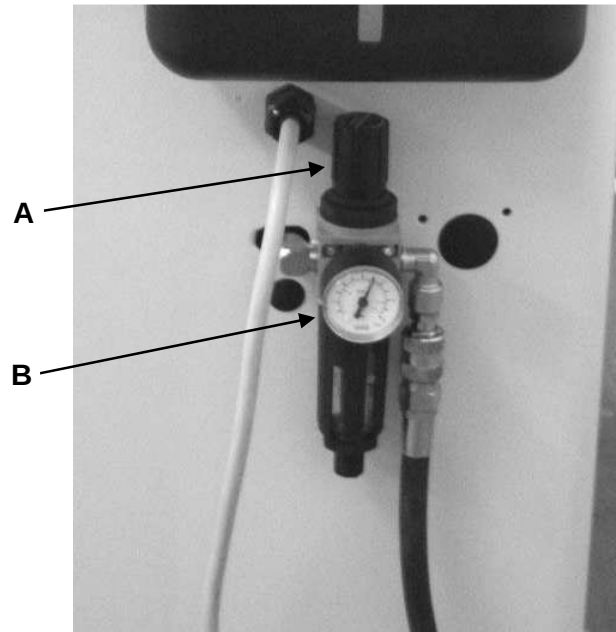

Fig. 09-05
9.5 ADJUSTING THE INCOMING AIR PRESSURE (Fig. 09-05)